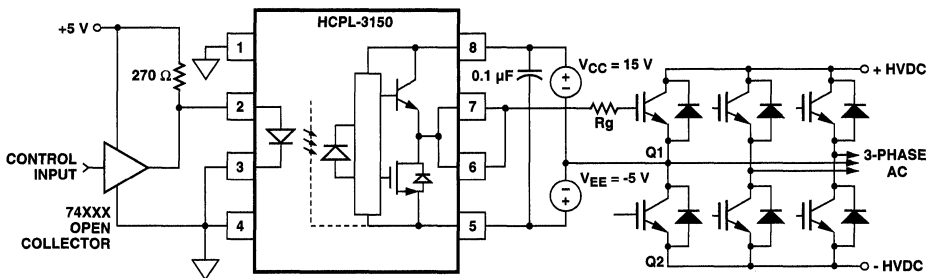

Figure 26. HCPL-3150 Typical Application Circuit with Negative IGBT Gate Drive.
Step 1: Calculate R_g Minimum From the I_{OL} Peak Specification. The IGBT and R_g in Figure 26 can be analyzed as a simple RC circuit with a voltage supplied by the HCPL-3150.
For the circuit in Figure 26 with I_F (worst case) = 16 mA, R_g = 30.5 Ω, Max Duty Cycle = 80%, Q_g = 500 nC, f = 20 kHz and T_A max = 90°C: